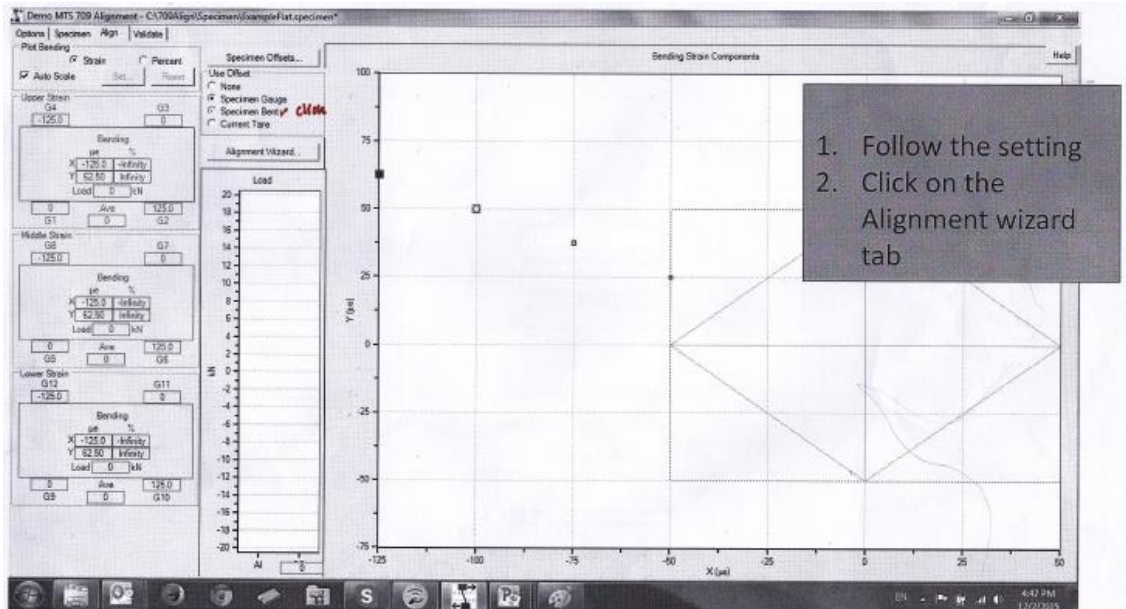

Figure 7: Align Tab Setting
- o) Follow the setting in the Align tab as shown in Figure 7. Click on the Alignment Wizard... tab.